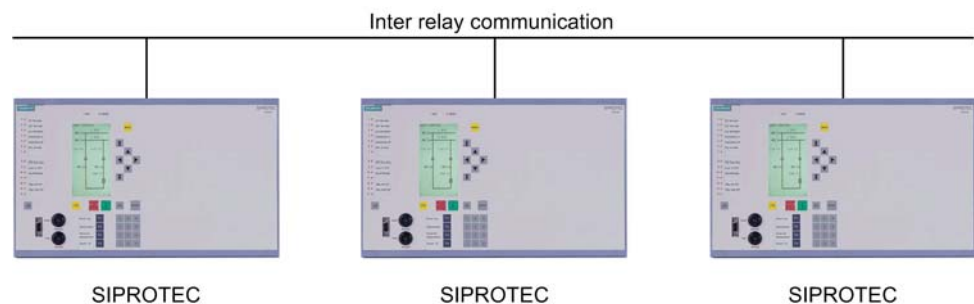

Figure 2-24 Switchgear interlocking system with 6MD66 and inter relay communication (IRC)
- Inter-relay communication IRC (see Section 2.12) can also be used for exchanging system interlocking information directly between devices. IRC nodes can only be SIPROTEC 6MD66x bay controllers. IRC is handled through a dedicated communication port (see Figure 2-24).